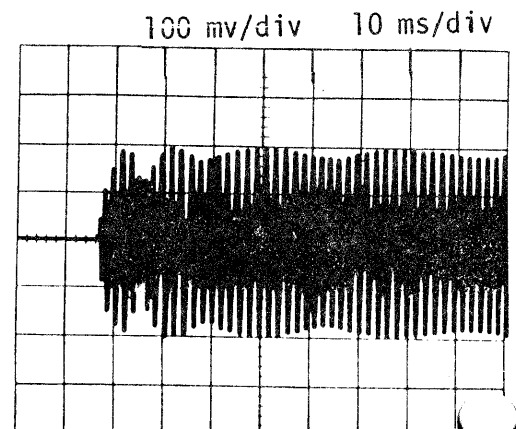

FIGURE 4 Head Load Activator Timing
d. When the head loads, the signal on the scope should be 50% of full amplitude within 35 ms (Figure 4). Trigger slope must be adjusted carefully to obtain proper timing.